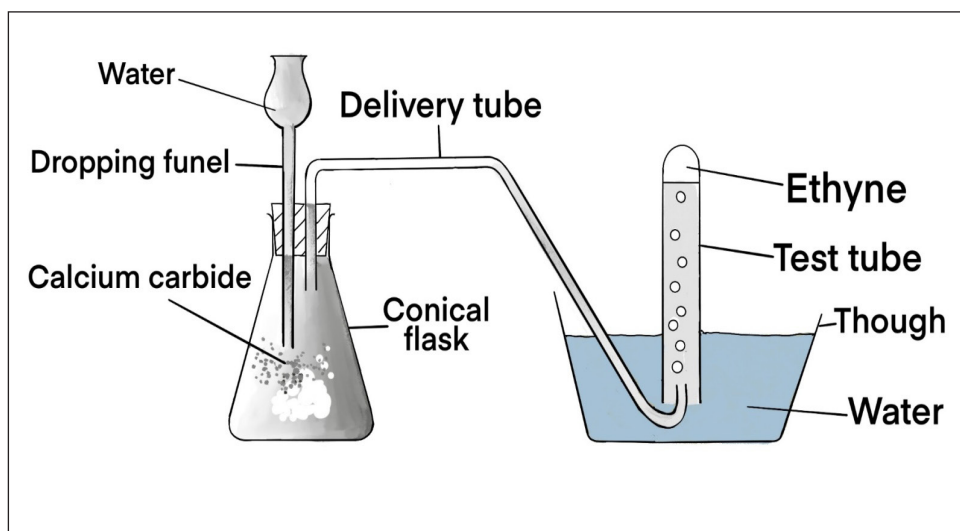

Figure 3.2: Preparation of ethyne in lab
2. Arrange the apparatus as displayed in figure 3.2